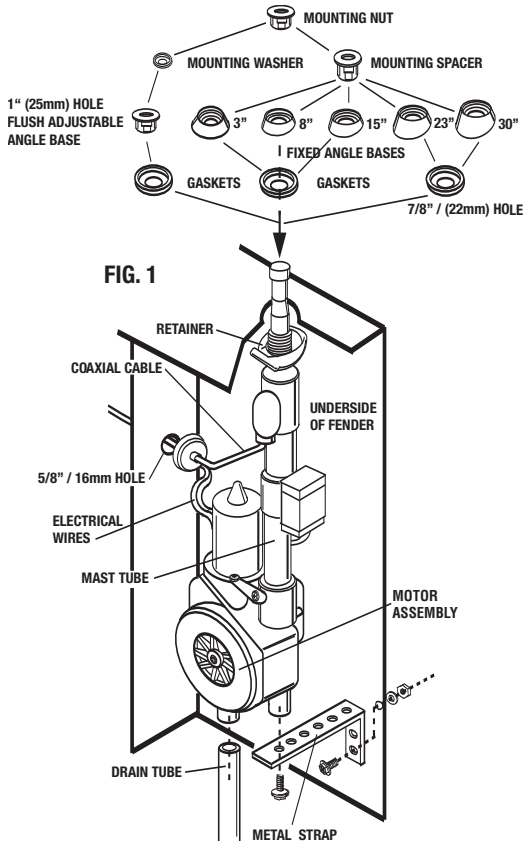

FIG. 1
B) Six mounting bases are provided with the antenna. Five fixed angle and one adjustable angle flush mount base. (See Figure 1).
C) Remove the installed flush mounting base from new antenna. Select the proper base with correct angle for fender (as shown in figure 1) or reuse original mounting base previously removed from old antenna. **NOTE: The five fixed angle bases require a 7/8" / 22mm hole. The adjustable angle flush base requires a 1" 25mm hole.**
F) Install the antenna from the underside of the fender and assemble the base above the fender according to **Figure 1**. **BE SURE THE RETAINER RESTS EVENLY ON THE UNDERSIDE OF THE FENDER TO ALLEVIATE ANY POSSIBLE DAMAGE TO THE VEHICLE.** Align the mast vertically by slightly tightening the antenna mounting nut while adjusting the mast to be vertical.
I) Attach the drain tube to the bottom of the motor assembly and route to the outside of the car. Avoid any kinks or bends in the tube that may restrict drainage. (as shown in figure 1.)